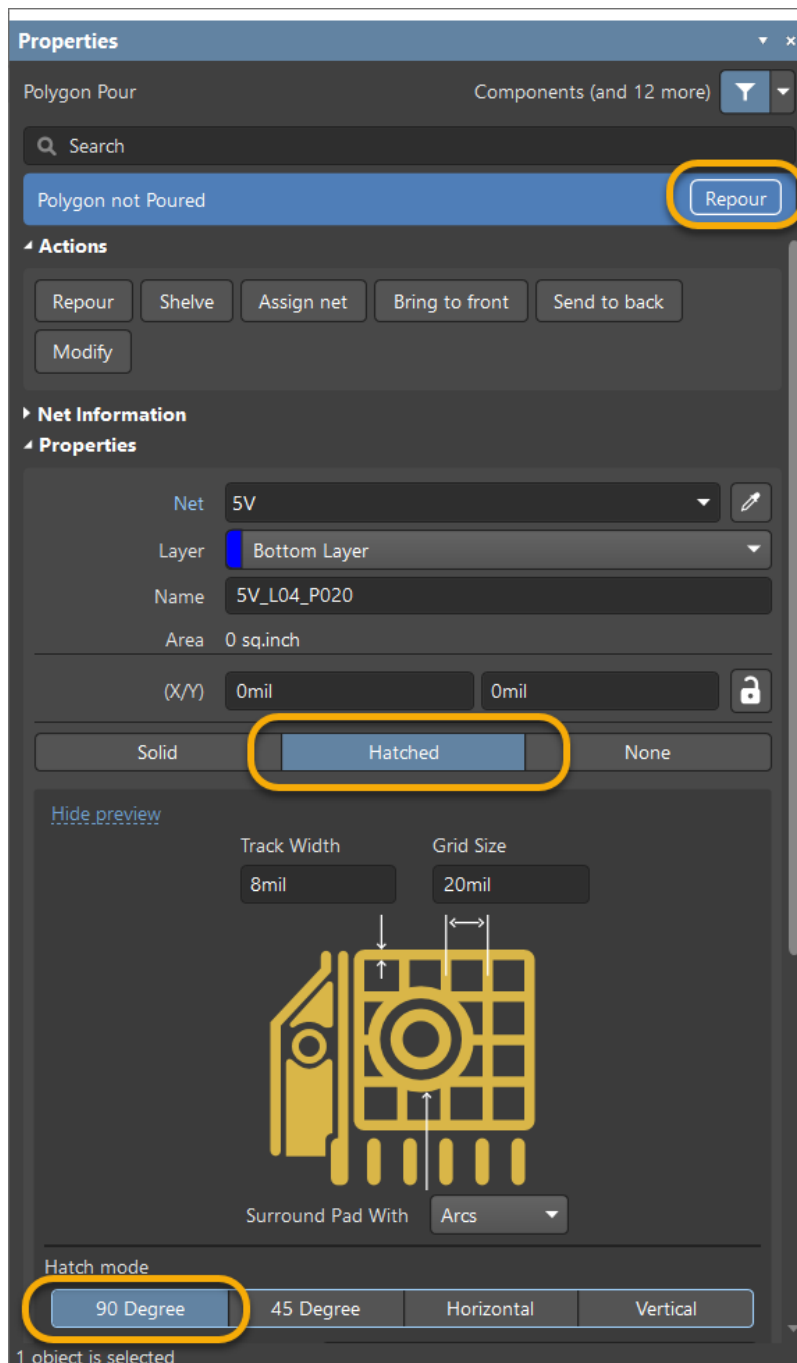

Figure 7. Changing the Polygon fill mode
27. Change the *Fill Mode* to **Hatched** as shown in Figure 7. After changing it to **Hatched**, the polygon will need to be repoured.
28. The repour dialog will be shown at the top of the *Properties* panel, as shown in Figure 7. Click the **Repour** option as shown. The polygon can also be repoured by going to **Tools » Polygon Pours » Repour All**.